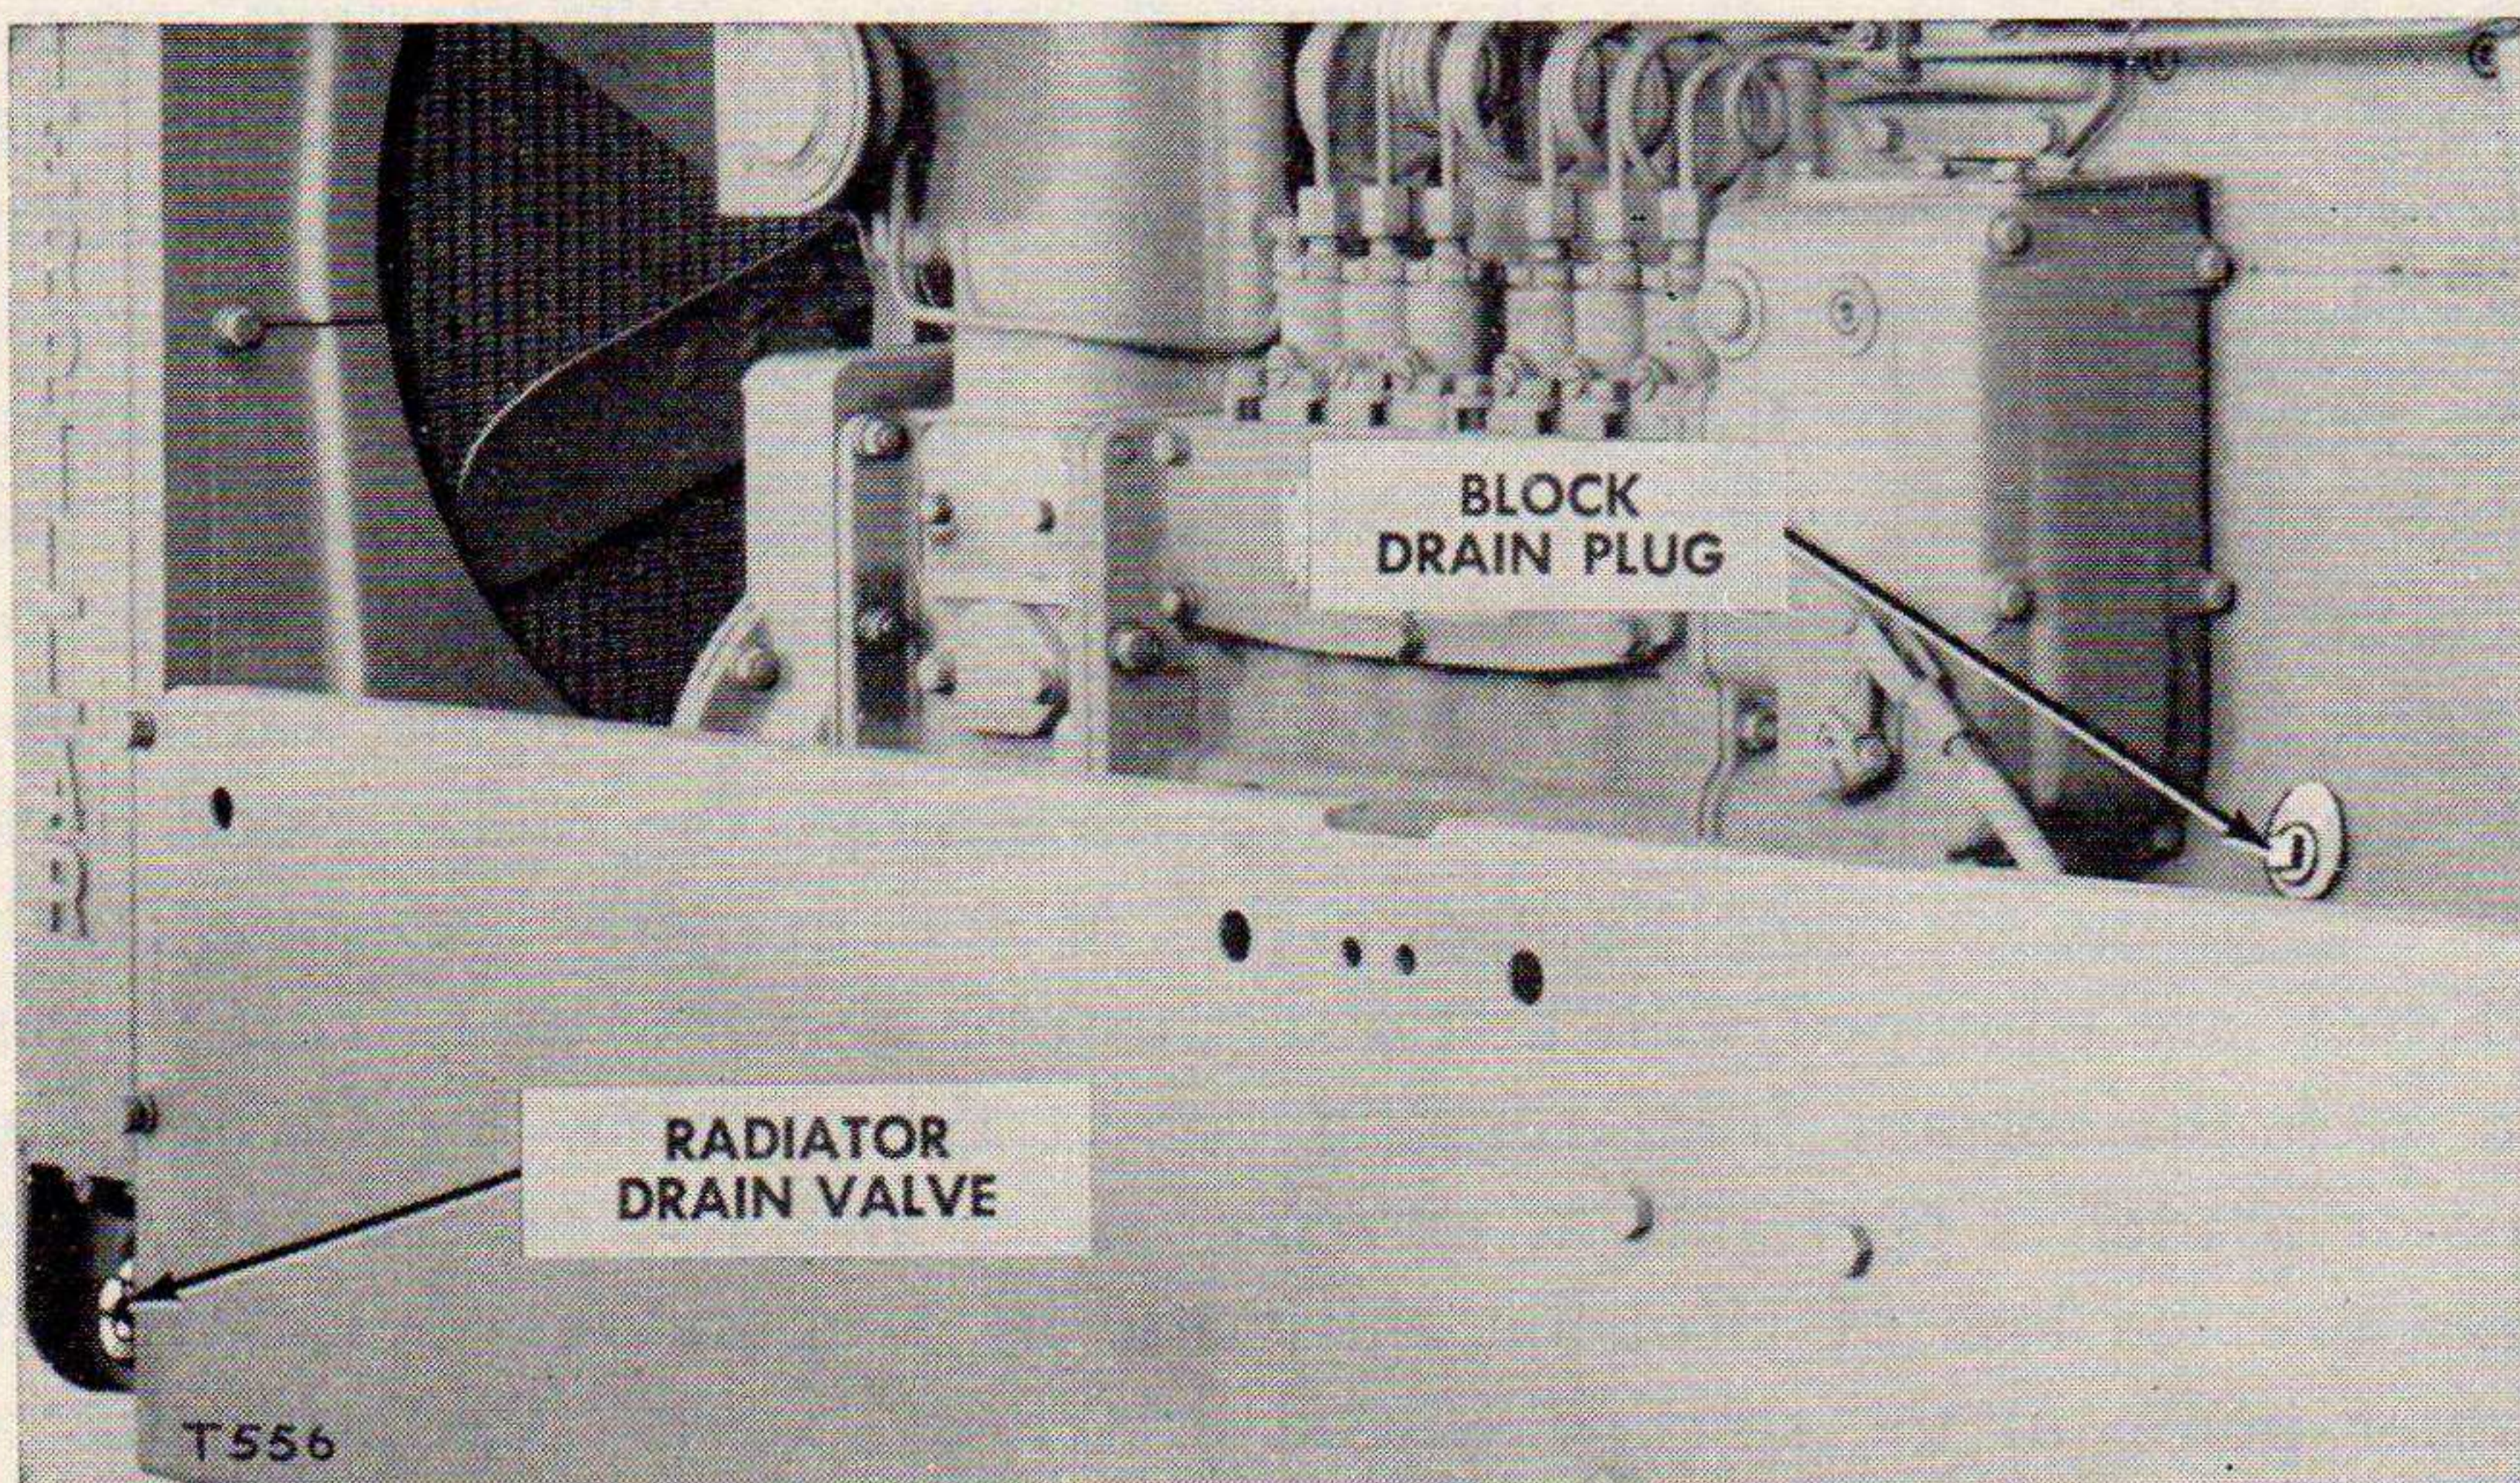

Figure 72. Location of drain plug and valve.
b. **DRAINING PROCEDURE.** (See fig. 72.)
- (1) *General.* The system is drained at two points. If the system is to be drained because of repairs it is advisable to save the water for re-use since all of the harmful minerals have already settled out.
- (2) *Drain radiator.* Open the drain valve located on the side of the bottom of the radiator.
- (3) *Drain Diesel engine block.* Remove the pipe plug located on the side of the engine block.
and removing the drain plug located on the side of the block. (See fig. 72.)